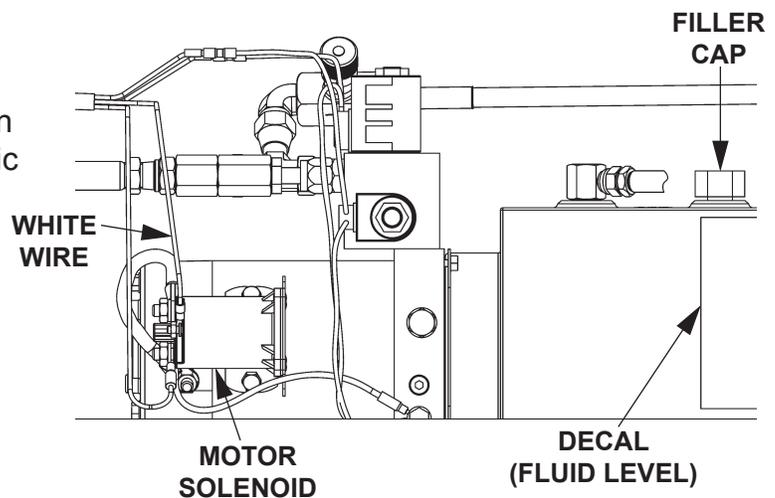

FIG. 13-2
3. Disconnect the white wire (**FIG. 13-2**) from motor solenoid. Lower the platform while draining the remaining hydraulic fluid from system. Reinstall drain plug. Reconnect the white wire to motor solenoid.
4. Remove filler cap (**FIG. 13-2**) and refill reservoir to the level shown on decal.
5. Raise platform to vehicle bed height. Check hydraulic fluid again and, if needed, add more hydraulic fluid (**FIG. 13-2**).
6. Reinstall filler cap (**FIG. 13-2**).
5. Drive the hinge pin into correct position (**FIG. 13-2**) through the hinge bracket with a hammer and pin punch. Line up the bolt hole in the hinge pin with the hole in the hinge bracket. Bolt the hinge pin to hinge bracket with bolt and lock nut (**FIG. 13-2**).